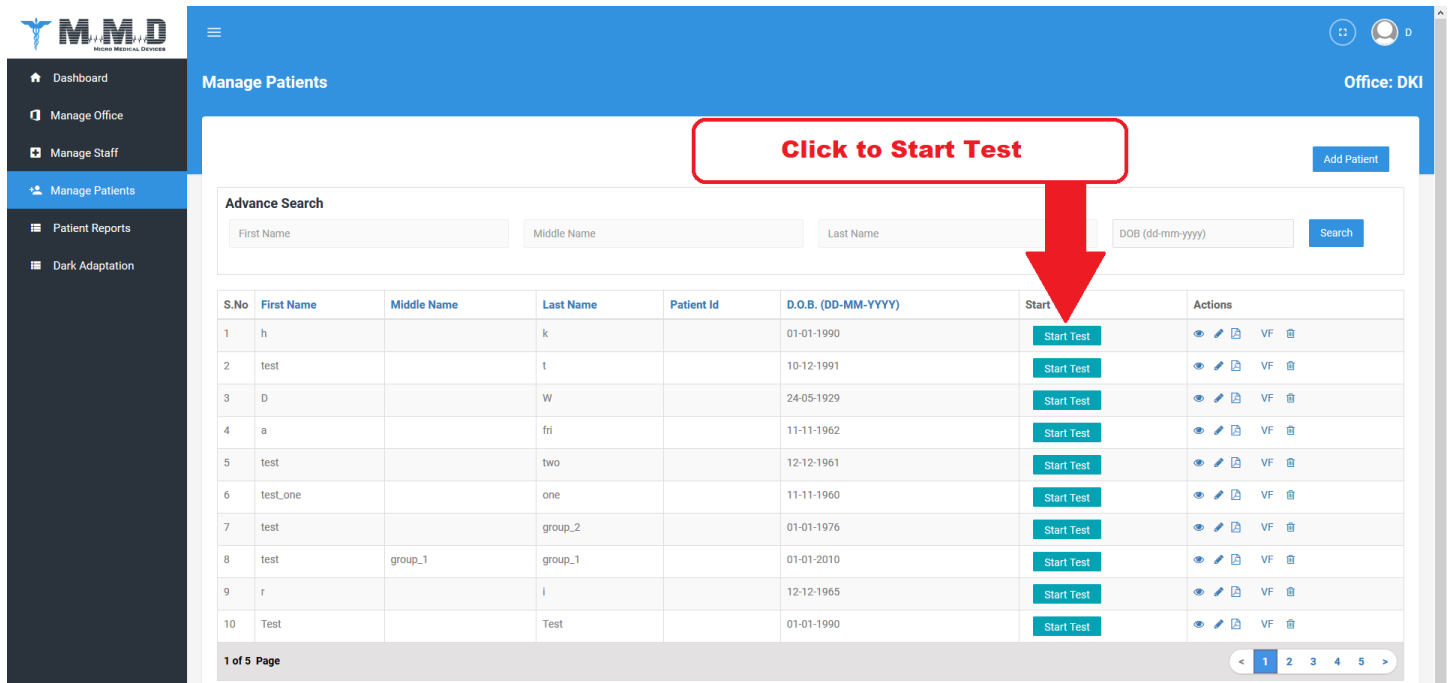

Figure 28: Click to Start Test
- a) On the right side, click the “Manage Patients”. If the patient is not already added into the system, click “add patient” and fill out the required information (First name, Last name, DOB). Once the patient is in the system, click the “Start Test” button listed under the “Start Test” Column as shown in Figure 28: Click to Start Test.